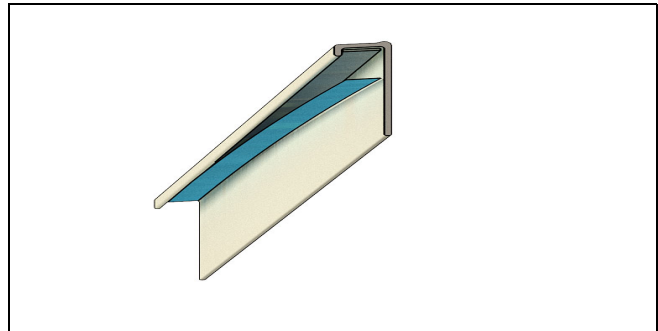

Figure 29
3. Locate and remove tape backer on the interior sill liner. See Figure 29.